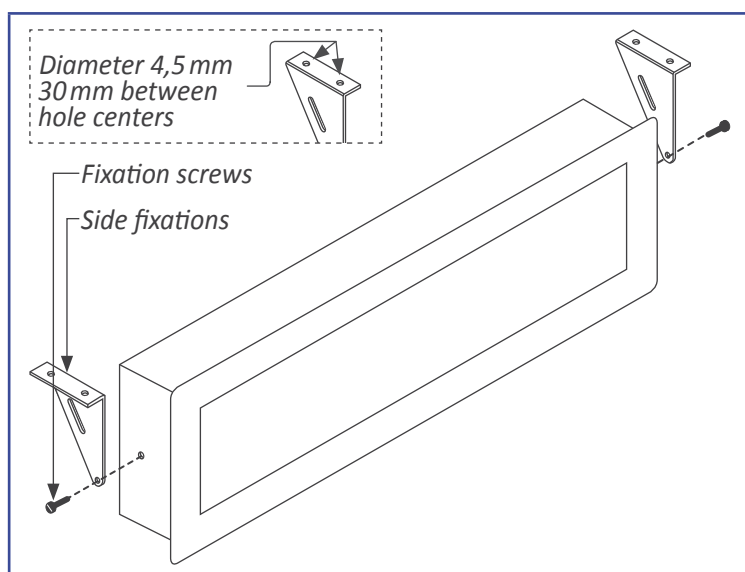

Figure 13 - Hanging mount
- Hanging mount. Mount the side fixations as shown (see Figure 13). Each fixation has 2 holes with 4,5 mm diameter and a separation between hole centers of 30 mm. Instrument can be hanged using cable, threaded rod, ....